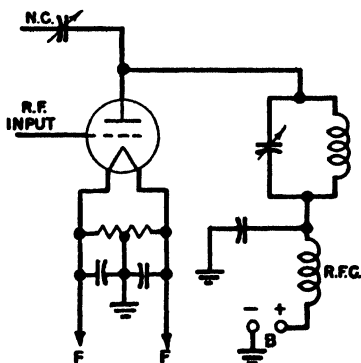

FIG. 4-21.—Simple series-fed plate arrangement.
*Ans.* Figure 4-21 illustrates a simple series-fed plate radio-frequency amplifier.